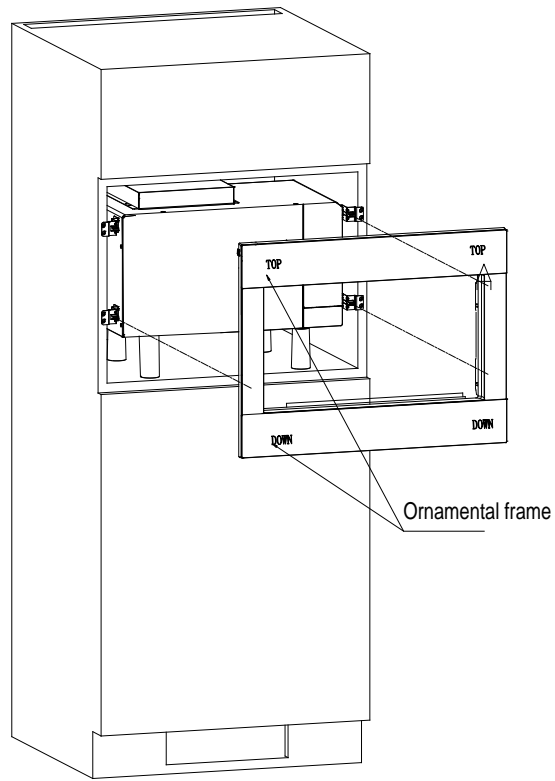

Fig 5
- e) Secure ornamental frame to holders, as shown in Fig.5.